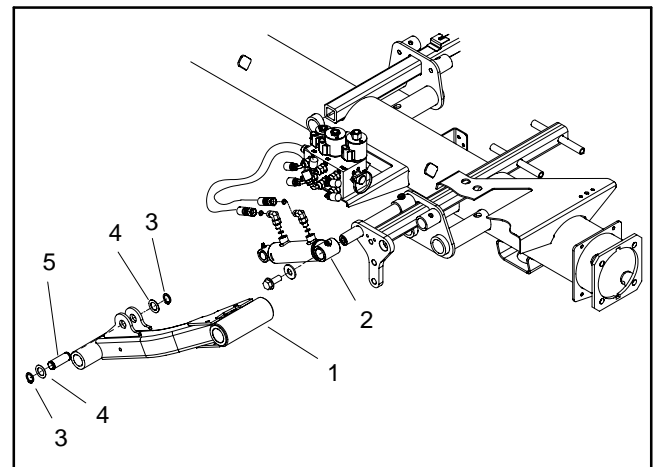

Figure 21
3. Disconnect lift cylinder from lift arm (Fig. 21):
A. Remove one (1) retaining ring and thrust washer from the cylinder pin that secures lift cylinder to lift arm.
4. Remove fasteners that secure tipper bracket (item 7 or 8) to machine. Remove tipper bracket.
1. If lift arm pivot shaft (item 14) was removed from frame, apply antiseize lubricant to pivot shaft surface and insert shaft into frame. Align holes in frame and pivot shaft. Secure pivot shaft with new roll pin.
2. If pivot shaft (item 16) was removed from lift arm, insert pivot shaft in lift arm and secure with cap screw (item 19).
A. Apply Permatex Blue Gel Threadlocker (or equivalent) to threads of screws (items 9, 12 and 18).
C. Install screws, flat washers (items 11 and 13) and flange nut (item 6) to tipper bracket, pivot shaft and frame bracket.
D. Torque 1/2" fasteners (items 9 and 18) from **75 to 95 ft-lb (102 to 128 N-m)**. Then, torque 5/8" fasteners (item 18) from **135 to 165 ft-lb (183 to 223 N-m)**.
5. Connect lift cylinder to lift arm (Fig. 21):
1. If lift arm pivot shaft (item 9) was removed from frame, apply antiseize lubricant to pivot shaft surface and insert shaft into frame. Align holes in frame and pivot shaft. Secure pivot shaft with new roll pin (item 13).
2. If pivot shaft (item 11) was removed from lift arm, insert pivot shaft into lift arm and secure with cap screw (item 14).
A. Apply Permatex Blue Gel Threadlocker (or equivalent) to threads of screws (items 4, 6 and 8).
C. Install screws, flat washers (items 5 and 10) and flange nut (item 7) to bridge plate, bulkhead bracket, pivot shafts and frame bracket.
D. Torque 1/2" fasteners (items 4 and 8) from **75 to 95 ft-lb (102 to 128 N-m)**. Then, torque 5/8" fasteners (item 6) from **135 to 165 ft-lb (183 to 223 N-m)**.